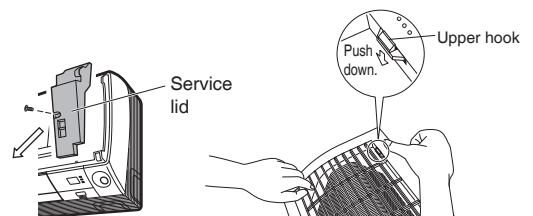

Fig.2
- 4) Remove the service lid screw (1 screw) and remove service lid. (See Fig.2)